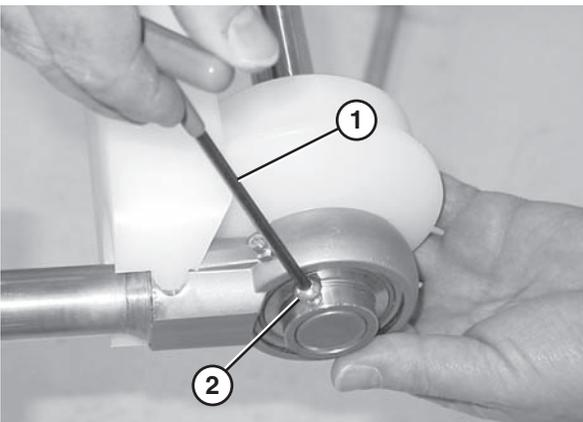

Figure 72
- Use a hex wrench (**Figure 72, item 1**) to loosen the bearing shaft assembly fasteners (**Figure 72, item 2**).